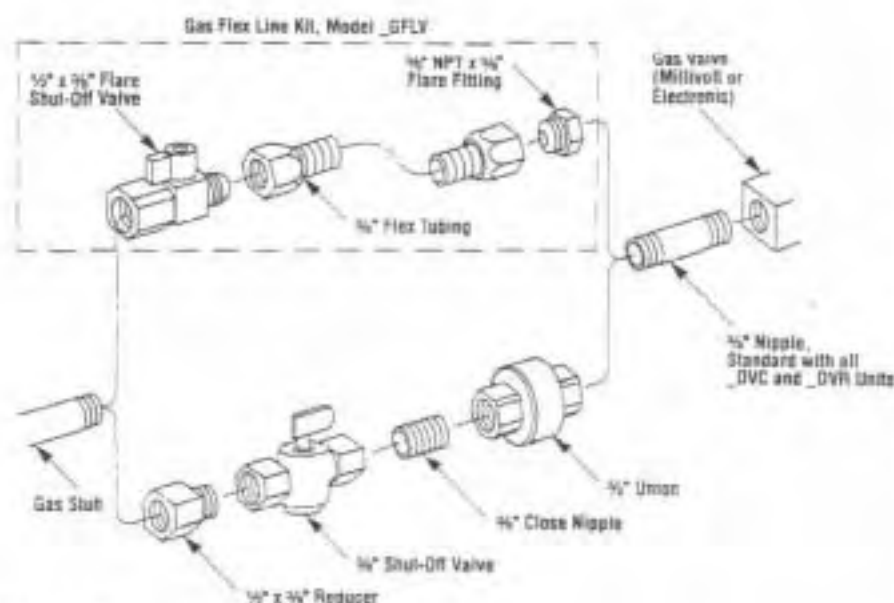

Figure 37
Step 9. Connecting Gas Line - Make gas line connections. All codes require a shut-off valve mounted in the supply line. Figure 37 illustrates two methods for connecting the gas supply. The flex-line method is acceptable in the U.S., however, Canadian requirements vary depending on locality. Installation must be in compliance with local codes.